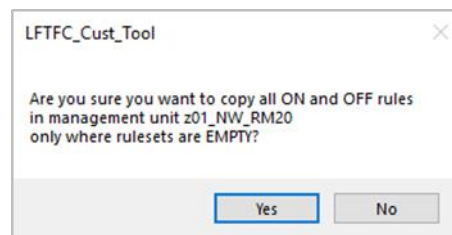

Figure 6-13. Verify that you want to copy all rules.
- Verify that you want to copy all On and Off rules by clicking Yes (Figure 6-13).